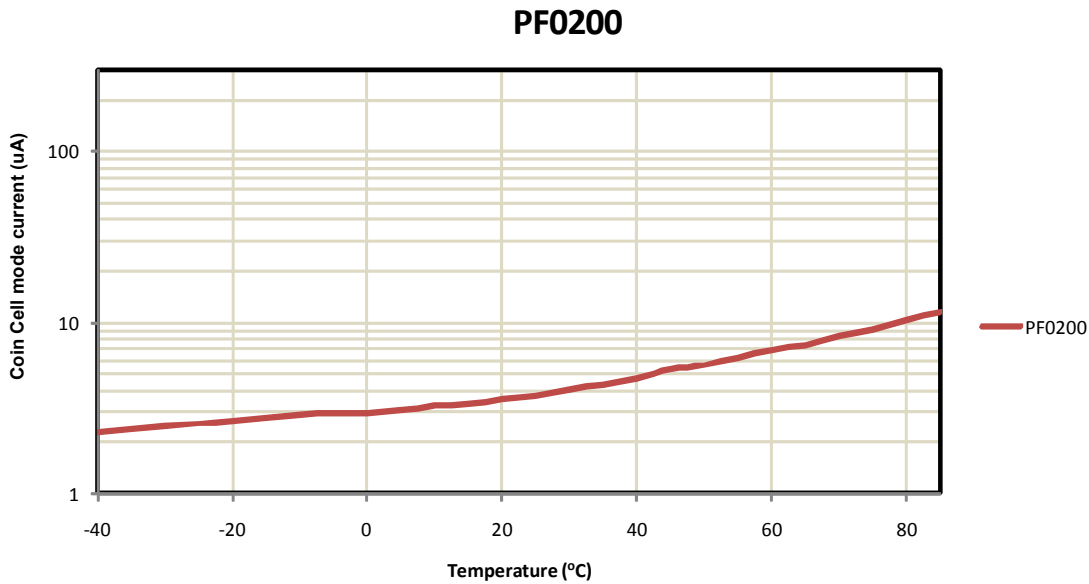

Figure 4. Coin Cell Mode Current Versus Temperature
16. Refer to Figure 4 for Coin Cell mode characteristics over temperature.